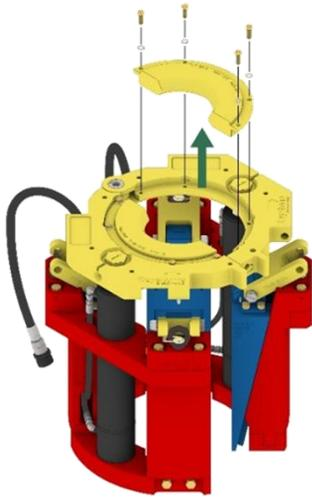

Fig. 20
Step 1: First Remove the guide plate retainer bolts and guide plates from the leveling plate. Fig. 20